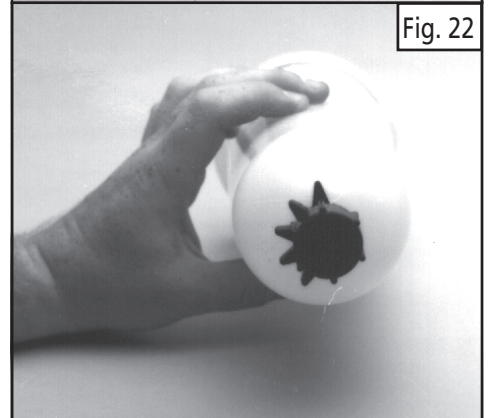

Fig. 22
- 3) Remove the adjustment cap by depressing and turning counter-clockwise past the "1" setting. (See Figure 22).